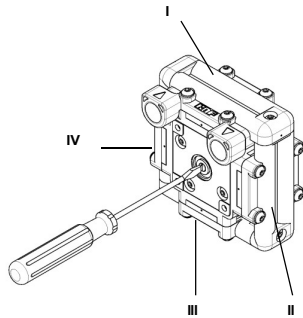

Figure 4
6. Rotate motor shaft with screwdriver until the diaphragm is at its topmost position (upper dead center). Alignment of slot in the motor shaft must be in direction of diaphragm. See Fig. 4.
7. Use the wrench (see accessories) to loosen the diaphragm (9). In order not to damage the teeth of the diaphragm, press the wrench firmly against the diaphragm and check for a correct fit. Make sure that no washers (10) fall into the pump housing. One washer per diaphragm!
11. Rotate motor shaft with screwdriver until the connecting rod is at its topmost position (upper dead center). Alignment of slot in the motor shaft must be in the direction of the diaphragm. See Fig. 4.
12. Screw the diaphragm (9) with one washer (10) on the connecting rod, making sure that no washers (10) fall into the pump housing.